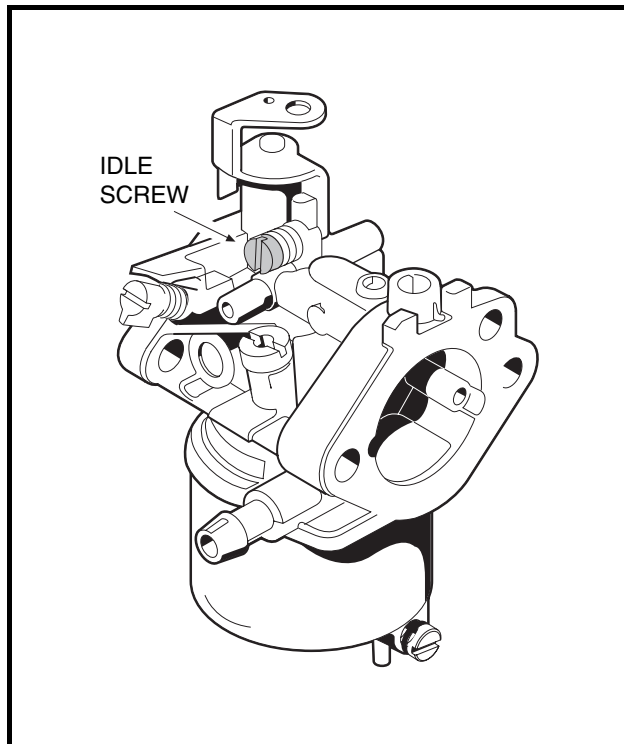

Figure 14-4 Idle Screw
1. Loosen the carburetor idle screw so that it is not touching the throttle lever (**Figure 14-4, Page 14-8**).